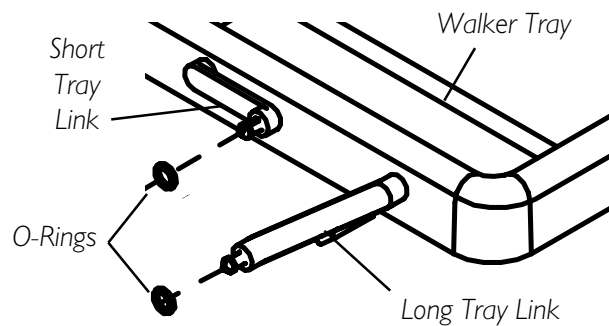

FIGURE 3 - INSTALLING O-RINGS ONTO THE TRAY LINKS
INSTALLING THE O-RINGS ONTO THE TRAY LINKS (FIGURE 3)
1. Install the four (4) O-rings over the ends of the walker tray links as shown in FIGURE 3.